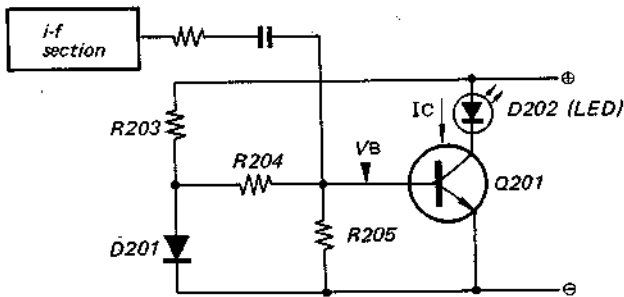

Fig. 1-4.
The circuit is shown in Fig. 1-4. Resistors R203, R204, R205, and diode D201 keep a constant bias voltage (VB) on the base of Q201. The bias is set at the cut-off point of Q201. Here, D201 stabilizes the bias against a variation in source voltage or temperature.